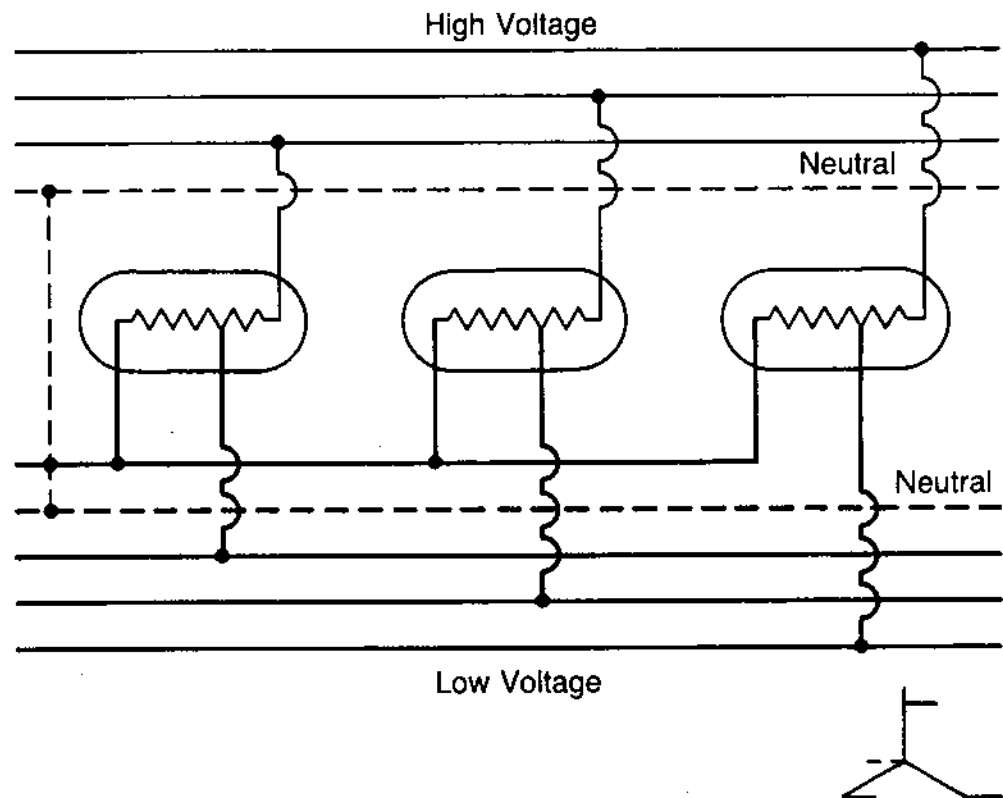

Fig. 38 – Three-Phase, Three- or Four-Wire, Star-Star with Autotransformers
c. Three-Phase, Three- or Four Wire, Wye-Wye with Autotransformers. See Figure 38. In this connection the high and low voltage windings are electrically connected together. For this reason the low-voltage side and connected apparatus will, under fault conditions, be subjected to the voltage of the high-voltage circuit.